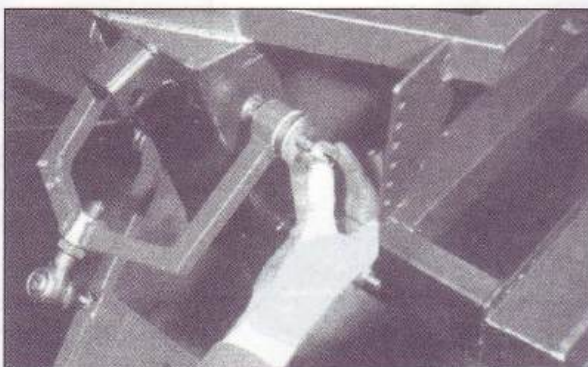

Fig.2e. Fitting packing washers.
4. Trial fit the upper wishbone to the pivot tubes in the front suspension upright and note any gaps. Fit pivot bolt and wishbone plus any packing washers on the inside of the wishbone as required. Secure with large washers and nuts as shown in fig.2e.